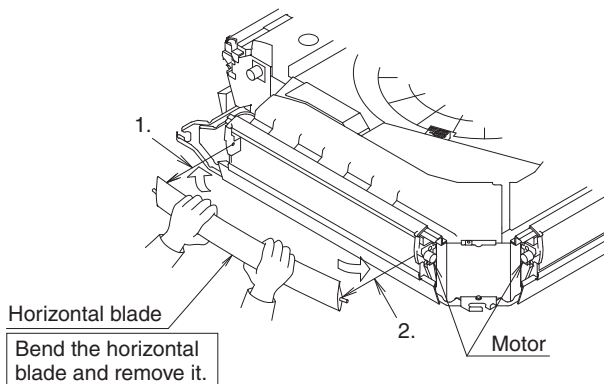

Fig. 10
(1) Remove the horizontal blade of the air outlet to be blocked. (Refer to Fig. 10 and Fig. 11)